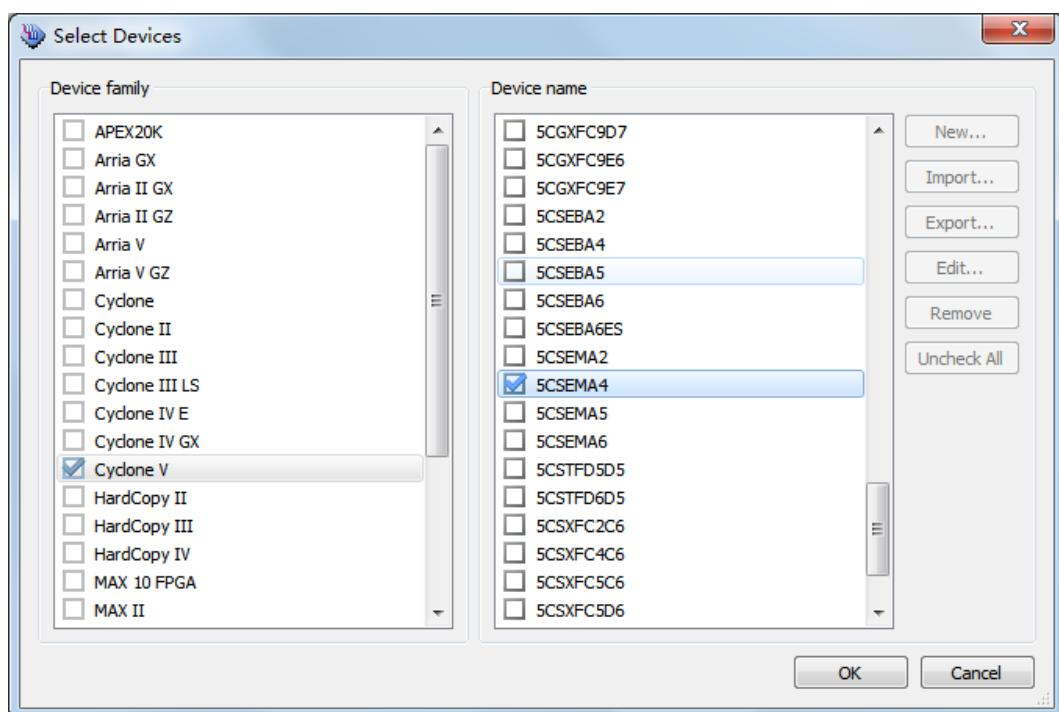

Figure 8-5 “Select Devices” page
12. Select the targeted FPGA to be programmed into the EPICS, as shown in **Figure 8-5**.